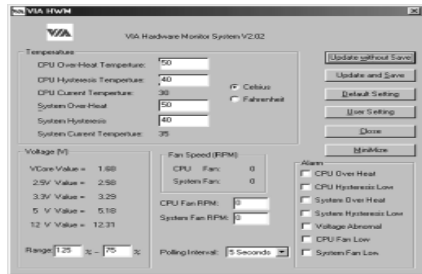

Figure 6
- Then click **“VIA Hardware Monitor”**, the screen will appear Figure 6. Set the threshold you want for system temperature, voltages and fan speed, by clicking the option item to increase / decrease setting.